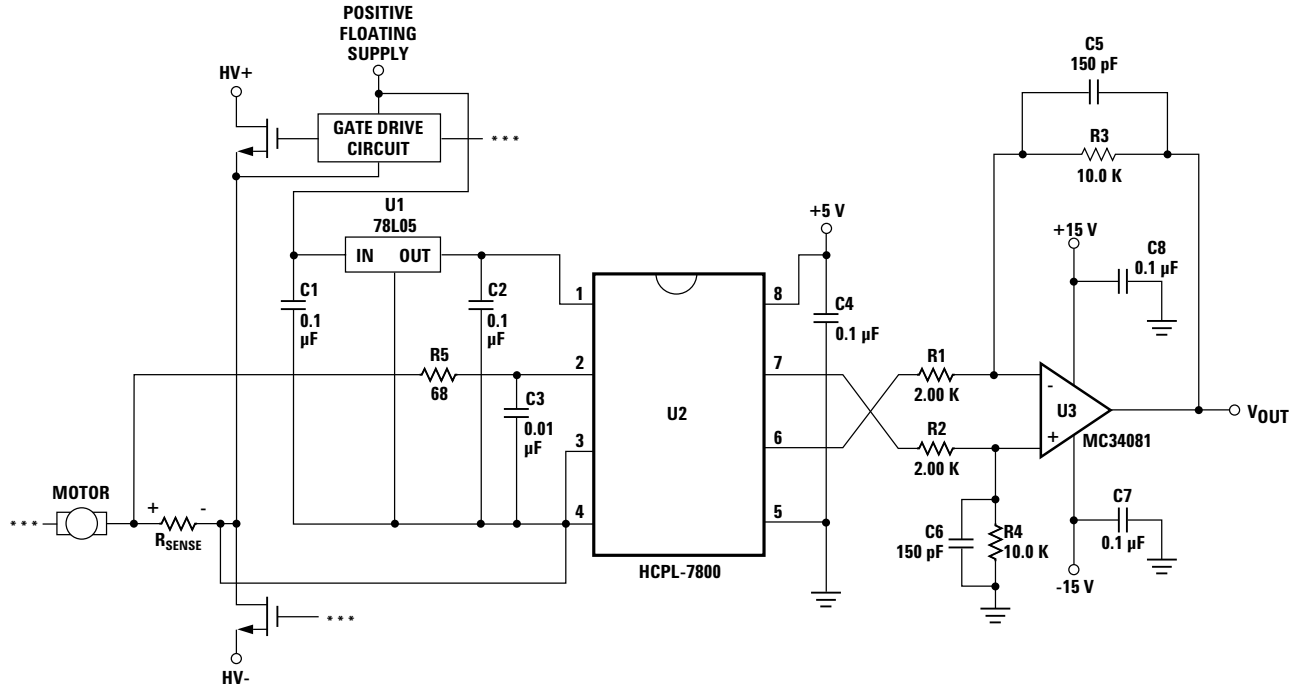

Figure 18: Recommended Application Circuit.
As shown in Figure 18, 0.1 μF bypass capacitors (C1, C2) should be located as close as possible to the pins of the HCPL-7800(A). The bypass capacitors are required because of the high-speed digital nature of the signals inside the HCPL-7800(A). A
The recommended method for connecting the HCPL-7800(A) to the current sensing resistor is shown in Figure 18. V_{IN+} (pin 2 of the HCPL-7800(A)) is connected to the positive terminal of the sense resistor, while V_{IN-} (pin 3) is shorted to GND1 (pin 4), with the power-supply return path functioning as the sense line to the negative terminal of the current sense resistor. This allows a single pair of wires or PC board traces to connect the HCPL-7800(A) circuit to the sense resistor. By referencing the input circuit to the negative side of the sense resistor, any load current induced noise transients on the resistor are seen as a common-mode signal and will not interfere with the current-sense signal. This is important because the large load currents flowing through the motor drive, along with the parasitic inductances inherent in the wiring of the circuit, can generate both noise spikes and offsets that are relatively large compared to the small voltages that are being measured across the current sensing resistor.